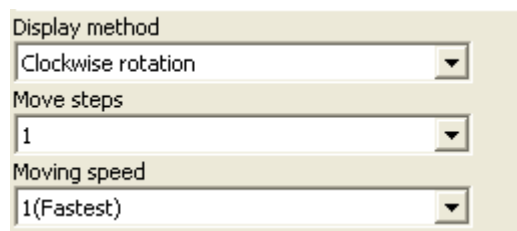

figure 4-4
- ◆ Display method: click the dropdown list to select the display method. As shown in figure 4-4.